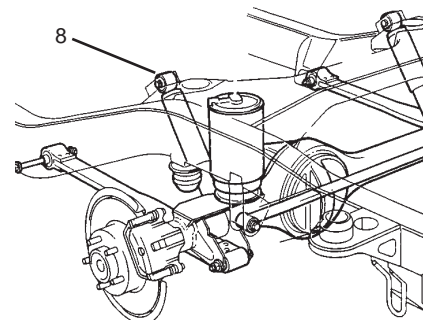

Figure 3 - Rear air suspension
6. Starting at the rear axle, disconnect the top of the rear shock (figure 3 -#8) from the shock mount,